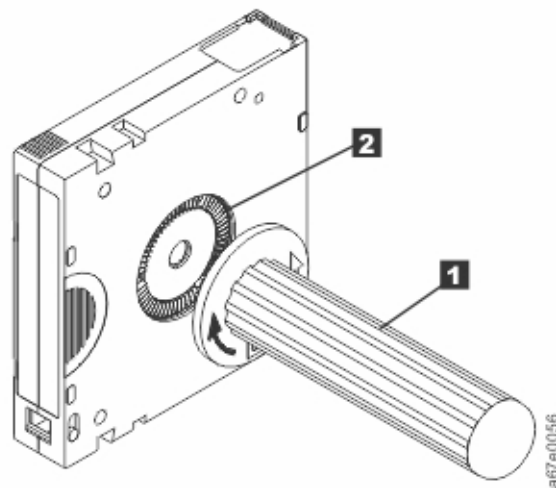

Figure 13. Rewinding the tape into the cartridge
5. To rewind the tape, insert the cartridge manual rewind tool (1 in Figure 13 on page 69) into the cartridge's hub (2) and turn it clockwise until the tape becomes taut.